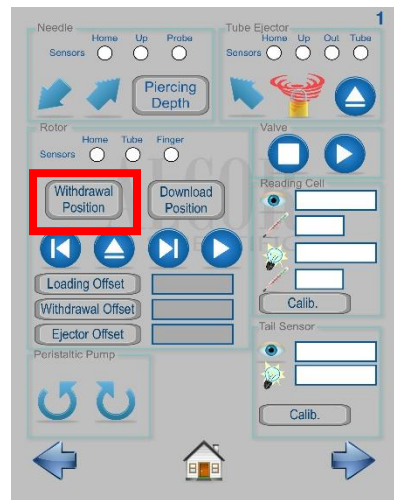

Figure 4
4. Press the Withdrawal Position icon highlighted in red in Figure 4. When the keyboard is displayed enter the value of 1 and press the green check mark.